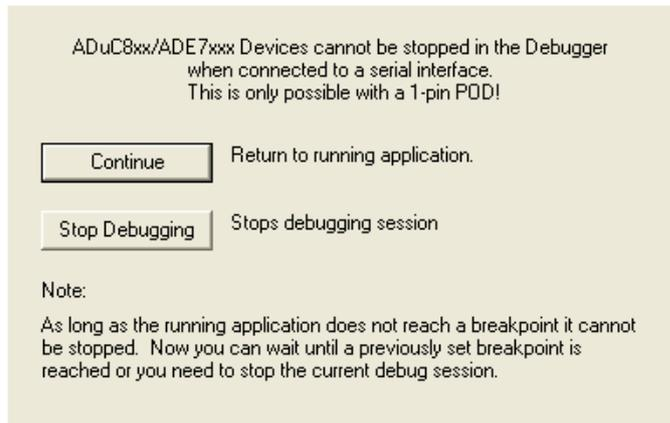

Figure 10
7. For UART Emulation, you can't set breakpoints in a cycle, for example, the "for" cycle and the "while" cycle. And you can't stop the program when the program is running, if you try to stop the program, then a warning happens as Figure 10.